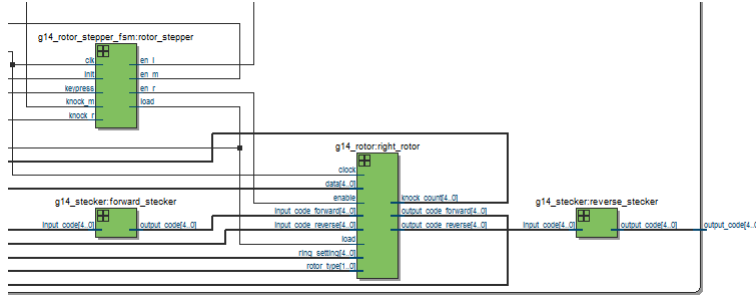

Figure 8: A closer look at the components making up the right side of the block diagram in figure 5.
1. The input code is sent to the input of the *forward_stecker* which can be seen in figure 8. The stecker scrambles the input code and produces a temporary *output_code* which can also be seen in figure 8.
2. The output of the stecker is connected to the *input_code_forward* input of the *right_rotor* which can be seen in figure 8. Let's not concern ourselves
7. As a final scrambling step, the *output_code_reversed* from the right_rotor goes into the reverse_stecker, which applies the inverse transformation of the original stecker on its input value, yielding the final result at its output. This reverse_stecker can be seen in figure 8.